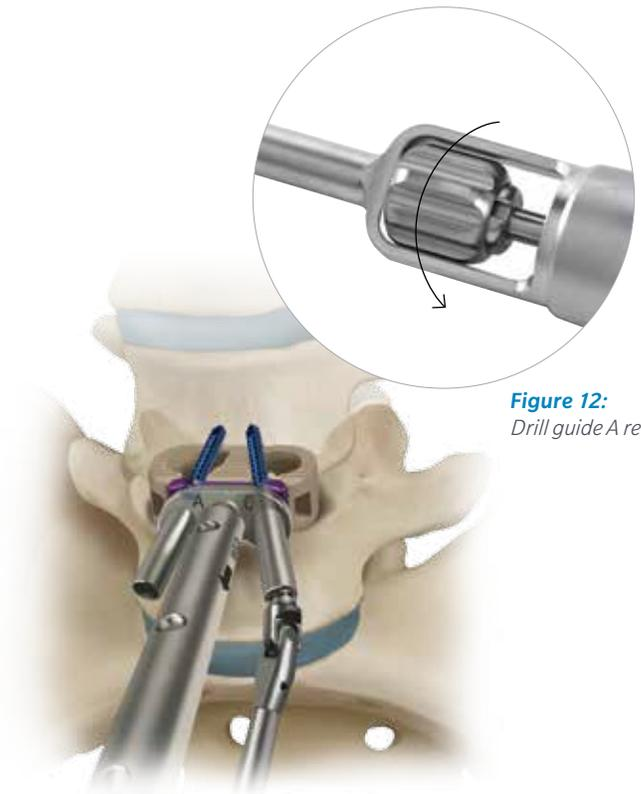

Figure 12:
- Remove drill guide A by turning the inserter handle thumbwheel counterclockwise (Figure 12).